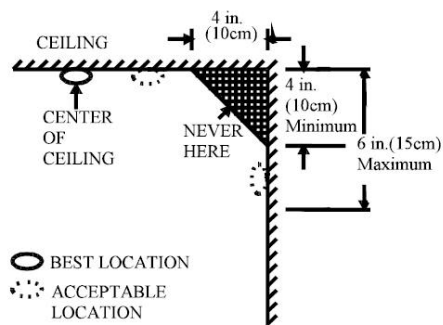

FIGURE 4
7. Install detectors as close to the center of the ceiling as possible. If this is not practical, put the detector on the ceiling, no closer than 4 inches (10 cm) from any wall or corner as shown in FIGURE 4.
8. If ceiling mounting is not possible, put wall-mounted detectors between 4 and 6 inches (10~15 cm) from the ceiling (FIGURE 4).
8. Dead air spaces are often at the top of a peaked roof, or in the corners between ceilings and walls. Dead air may prevent smoke from reaching a detector. Refer to FIGURE 4 and 5 for recommended mounting locations.